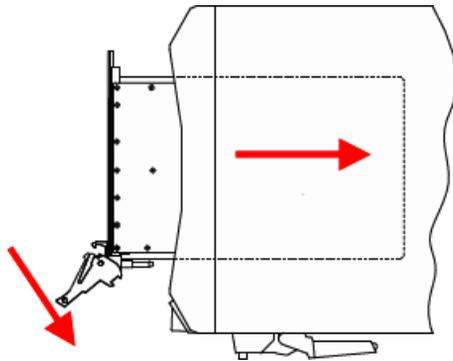

Figure 3 Installing the module to the chassis
- 5 Hold the module by the injector/ejector handle, and slide it into an available PXI (or hybrid) slot, as shown in Figure 3.